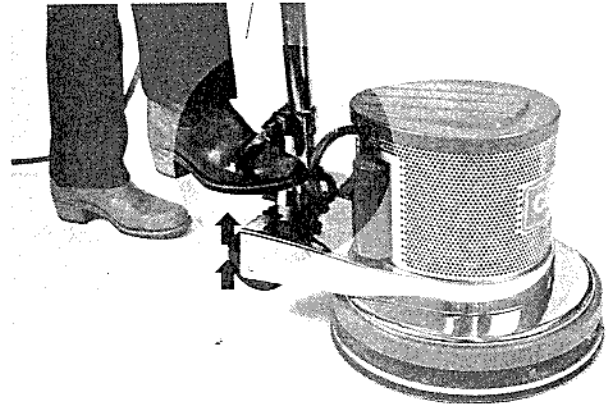

Figure 14
1. Release the handle locking lever. See figure 14.